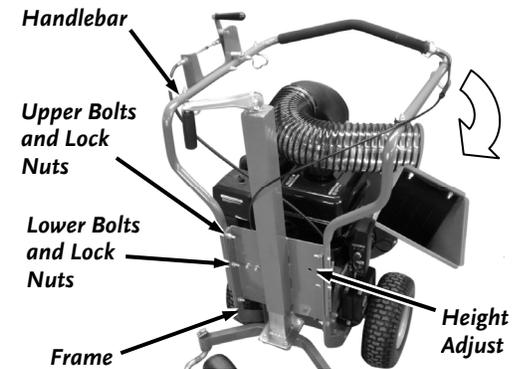

Figure 5
2. Remove the Lower Bolts and Lock Nuts that secure the Height Adjust to the Frame using two 1/2" Wrenches (**Figure 5**).